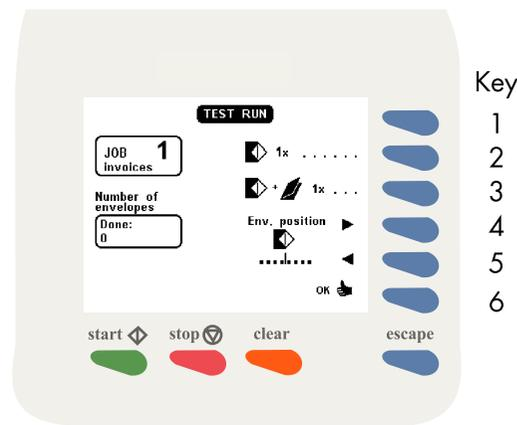
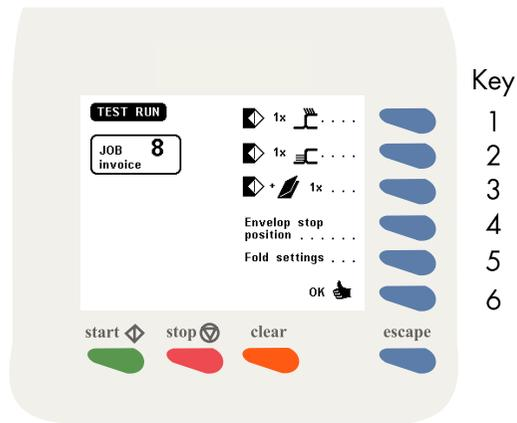
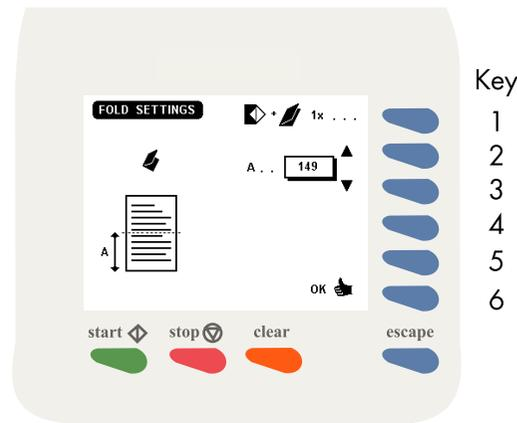

Fig. 17
Fig. 18
Fig. 20
After pressing key 3 in the "main menu" a test run screen will be displayed. In case an FO-2A is used the screen as shown in fig. 17 will appear. The purpose of the test run menu is to check proper envelope feed and to make adjustments to the envelope stop settings.
- feed one envelope (key 2).
- insert one document (key 3).
- envelope stop position to the right (key 4).
- envelope stop position to the left (key 5).
- confirm settings and return to the main menu (key 6).
In case an FO-3 is used, a screen as shown in fig. 18 will be displayed. The envelope position keys 4 and 5 of figure 17 have moved to a new submenu (see fig. 18, key 4): after pressing key 4 this submenu will be entered and the possibility of adjusting the envelope stop position to the left or right is available again.
In case the inserter is equipped with a second envelope hopper (EF-3) the test run menu has been extended and the following functions for key 1 and 2 have become available (see fig. 18 for an example):
- feed one envelope from the standard hopper (key 1).
- feed one envelope from the second hopper EF-3 (key 2).
In the 690 Series, if and when the electronic folder FO-3 is used, the operator has the possibility to adjust the (mechanic) folder settings during the execution of a specific job. This might be necessary for instance when adapting the fold settings to the current mechanic paper parameters (thickness, sturdiness et cetera). After pressing key 5 in figure 18 the menu of figure 20 appears.
- test for a folded document 1x (key 1). It makes sense to do this in the same menu screen.
- enter and effectuate the settings (key 6). Back to the menu "test run" menu of figure 18.
- discard the settings (Esc). Back to the "test run" menu of figure 18.